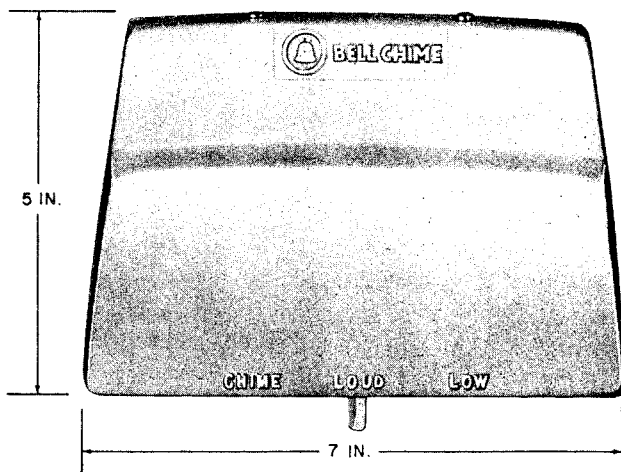

Fig. 1 — F1A Ringer With 125A Cover in Place
**1.01** This section contains identification, installation, maintenance, and connection information for the BELL CHIME ringer (Fig. 1 and 2).